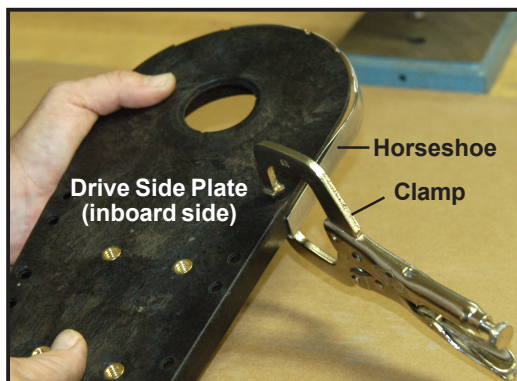

Figure 17
2. Once the horseshoe is fitted onto the Drive Side Plate, attach a clamp to hold it in position (*Figure 17*).